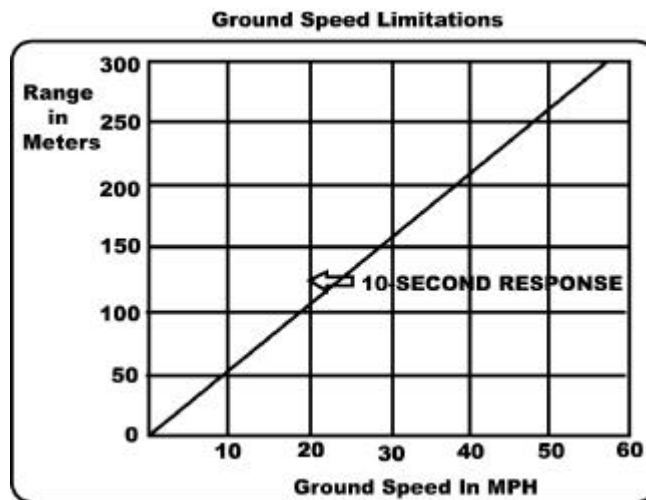

Figure C-2. Ground speed limitations
**C-2. GROUND SPEED LIMITATIONS.** After computing the range at which an object can be detected, use the ground speed limitations (Figure C-2) to determine a safe speed for driving with NVGs.